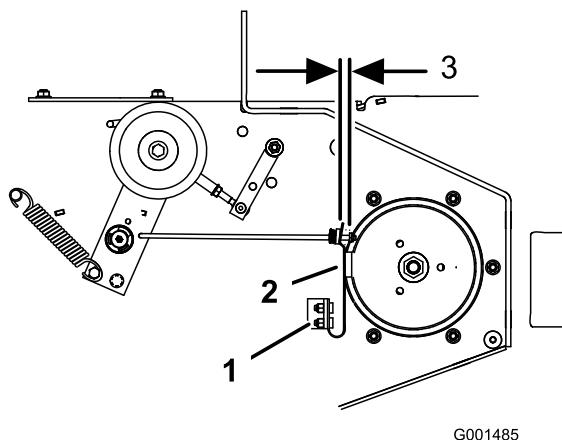

Figure 59
3. If necessary, adjust the spring mounting bolts so that the blade brake pad rubs against both sides of the pulley groove (Figure 59).
4. Adjust the nut at the end of the blade brake rod until there is 3-5 mm (1/8-3/16 inch) between the nut and spacer (Figure 59).